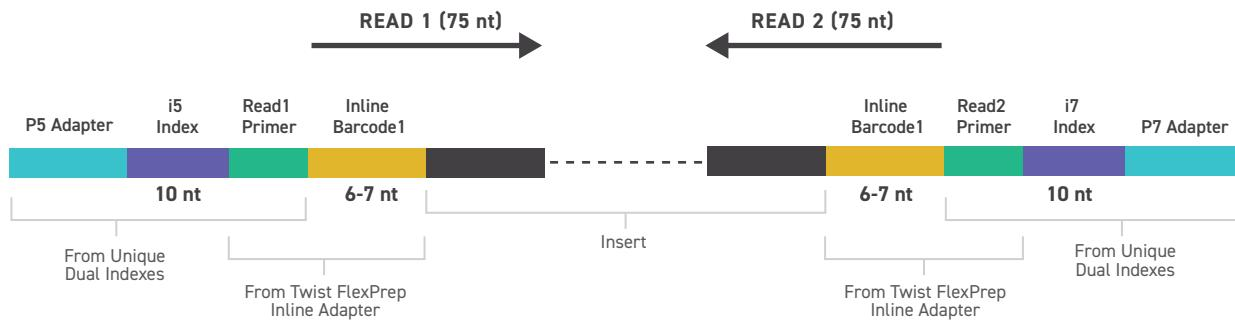

Figure 3. Twist FlexPrep Final Library Structure for Post-Ligation Pooling.
Each additional Twist FlexPrep barcode is inline as part of read 1 (R1) and read 2 (R2). Existing Illumina BCL conversion and sample demultiplexing software (e.g., `bcl2fastq2` and `BCLconvert`) are not currently equipped to handle the dual-step demultiplexing required for samples with barcodes at the start of template reads. Consequently, Illumina software treats Twist FlexPrep libraries as conventional dual-index libraries. The software requires an additional step to segregate the library sequences into their respective 12 individual FASTQ files while maintaining the shared i5 and i7 (**Figure 3**).
- The read structure parameter defines the Twist FlexPrep specific read structure, as follows (see Figure 3):